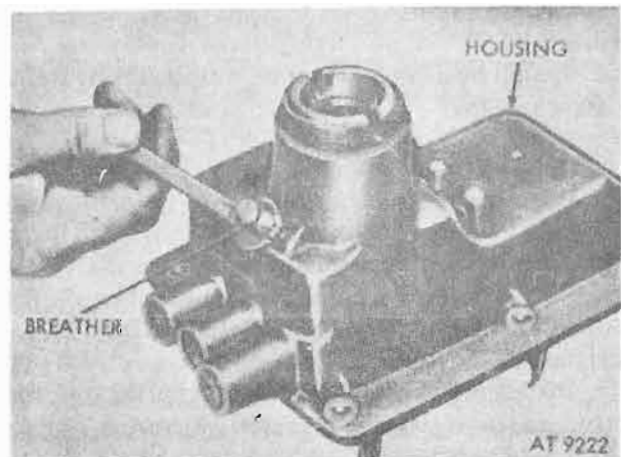

Figure 8-89. Transmission gearshift housing and breather.
a. Remove breather from top of transmission gearshift housing (fig. 8-89).
o. Install breather in housing. Refer to figure 8-89.